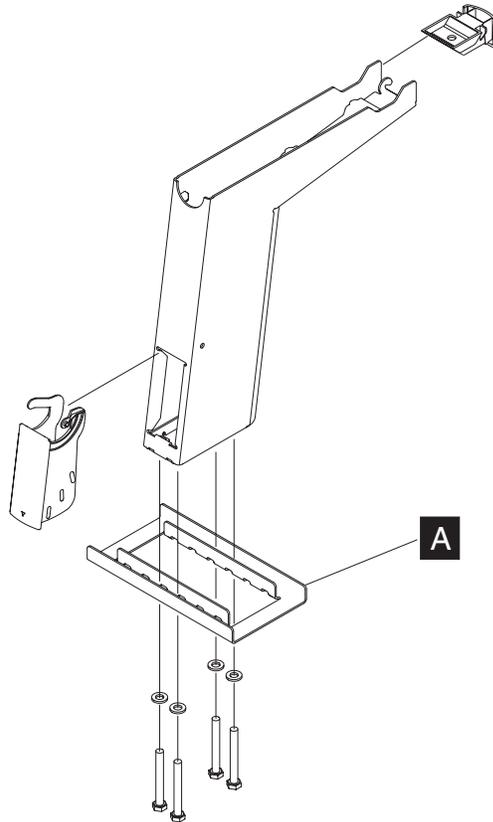

Figure 33. Attaching CRT to the counter
4. Remove the four screws that attach the post mount to the counter (see Figure 33 on page 32).
Note: Be sure that you install the stiffener (**A** in Figure 33) when reattaching the post mount. If the nut inserts in the post mount are not self-locking, use the lock washers that are provided.